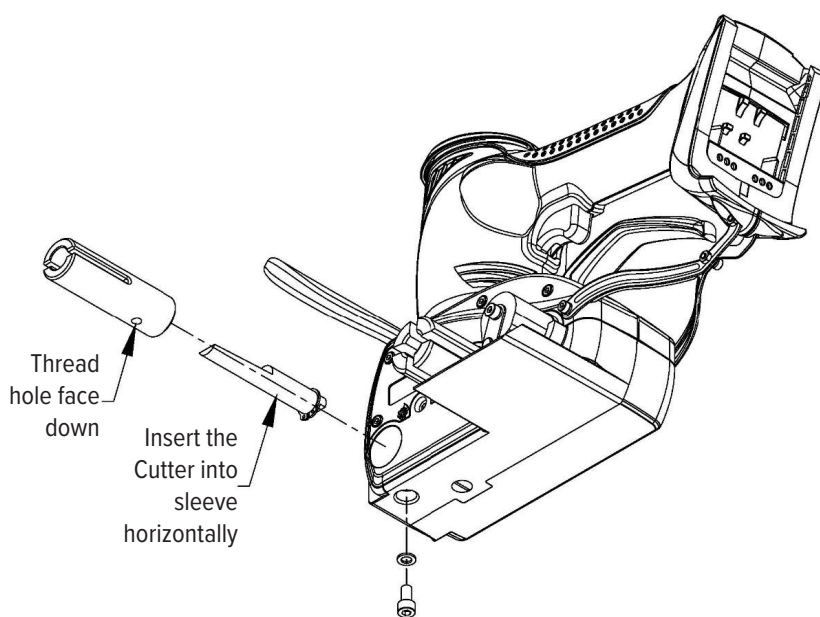

FIGURE 13. INSTALLATION OF CUTTER & SLEEVE ASSEMBLY
- Insert the Cutter into rear end of the Cutter sleeve horizontally, then insert the whole cutter assembly into the comparative hole of main frame assembly; Make sure the thread hole of Sleeve face down, and then fix with screw (M5x10mm) and washer (M5) from the bottom of the main frame assembly as (FIGURE 13) shown.